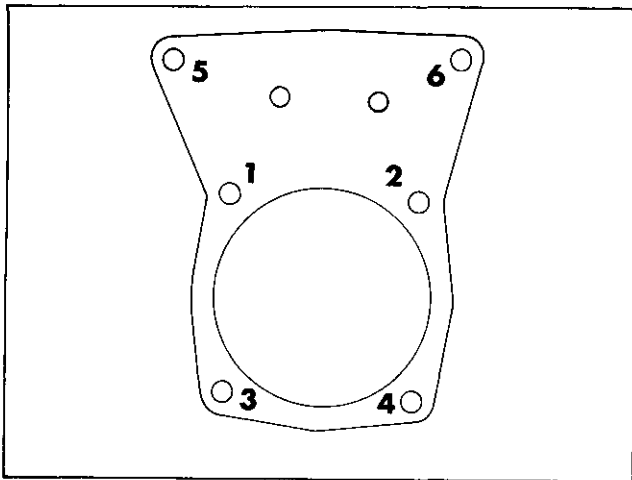

Figure 8-24. Barrel Nut Tightening Sequence
5. Slide cylinder barrels onto crankcase studs and secure barrel to crankcase with six 3/8" lock washers and six 3/8-16 hex nuts. Torque number 1 and number 2 nuts to 100 in. lbs., then tighten the remainder of the nuts using the sequence shown in Figure 8-24. When this is complete, torque all the nuts to 360 in. lbs. following the recommended sequence.